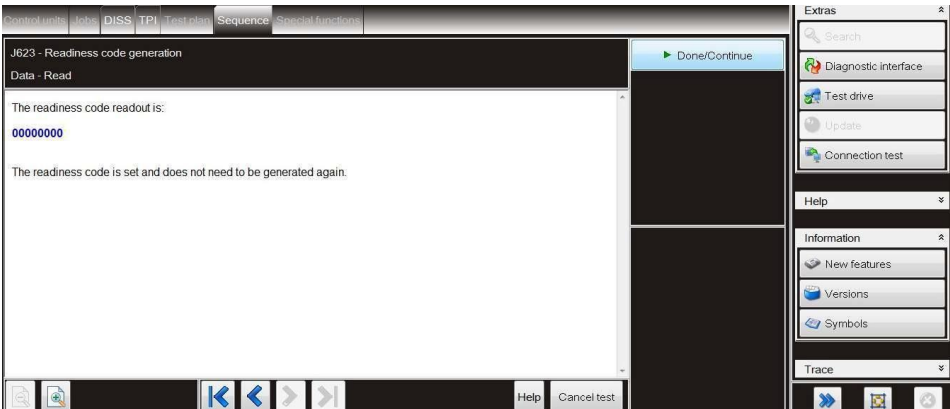

Figure 11
- Carry out the Readiness code test until complete as shown in Figure 11